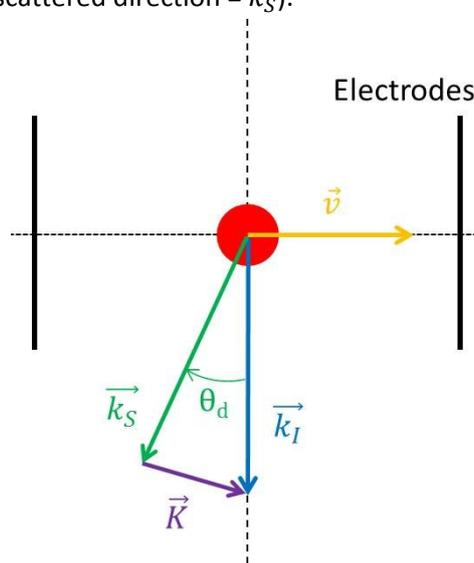

Figure 23: Geometric definition
The Doppler frequency shift $f_{Doppler}$ is related to the speed \vec{v} of particles and the detection angle θ_d (through the scattering vector \vec{K} define in Figure 23) by:
As Figure 23 represents the standard optical design for Zeta potential measurement device, and recalling eq (8), the following relation can be written: